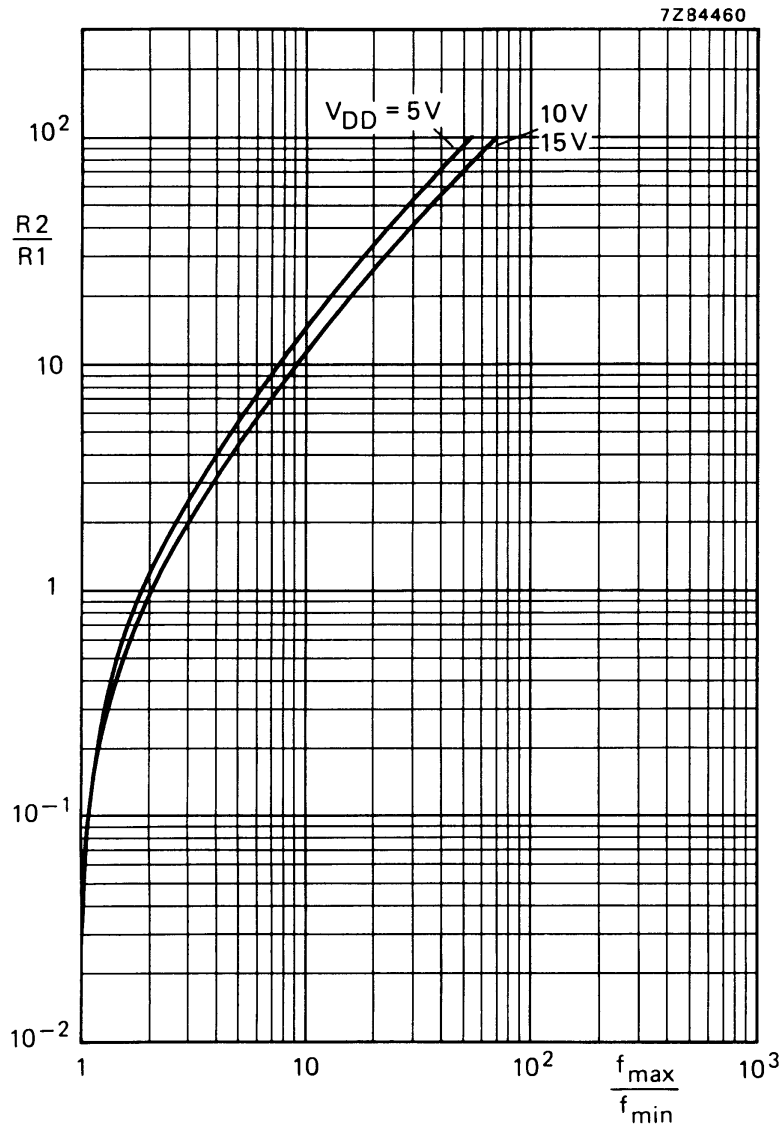

Fig.9 Typical ratio of R2/R1 as a function of the ratio  $f_{max}/f_{min}$ .
- a) Given fo and fL : calculate fmin from the equation fmin = fo - fL; use fmin with Fig.8 to determine R2 and C1; calculate  $\frac{f_{max}}{f_{min}}$  from the equation  $\frac{f_{max}}{f_{min}} = \frac{f_o + f_L}{f_o - f_L}$  ; use  $\frac{f_{max}}{f_{min}}$  with Fig. 9 to determine the ratio R2/R1 to obtain R1.
- b) Given fmin and fmax: use fmin with Fig.8 to determine R2 and C1; calculate  $\frac{f_{max}}{f_{min}}$  ; use  $\frac{f_{max}}{f_{min}}$  with Fig.9 to determine R2/R1 to obtain R1.